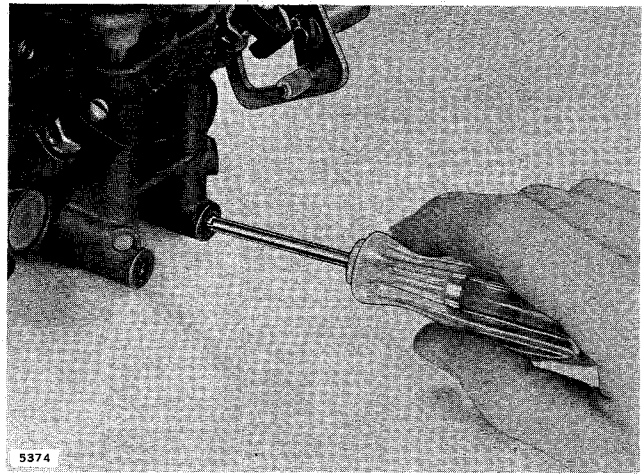

Figure 3-9. Removing Orifice Plugs
- b. Remove orifice plugs. To prevent damaging threads in carburetor body, use fixed jet screwdriver (Special Tool #379664). See Figure 3-9.